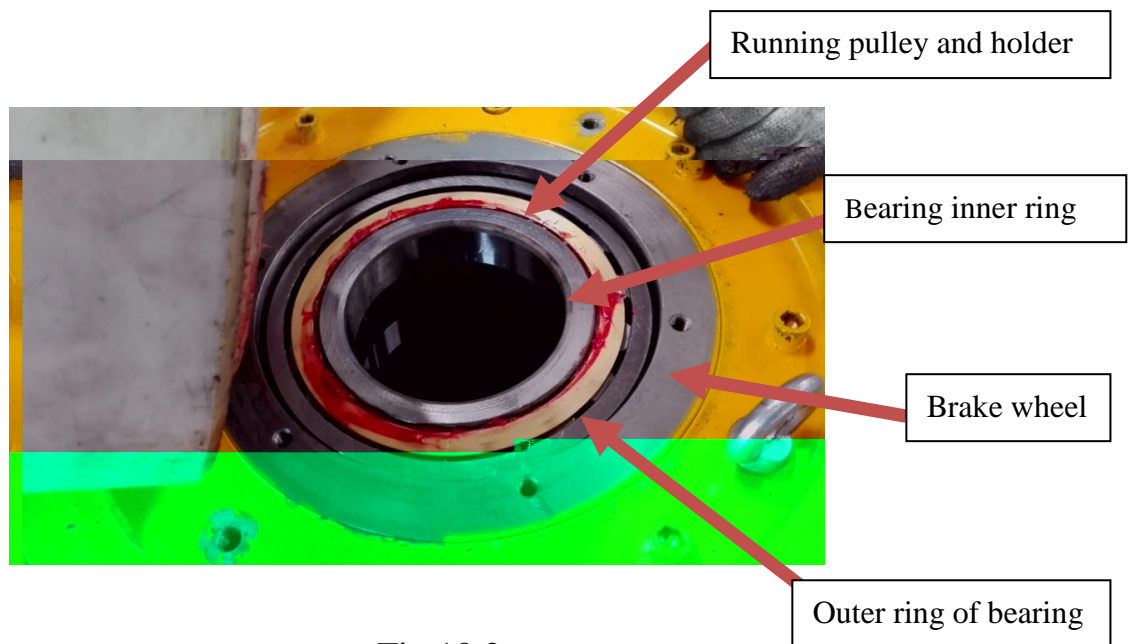

Fig.10.2
1.4.4.3.1.1 Remove the outer gland with Allen wrench on the M10 socket head cap screw, remove the rotor assembly from the machine, you can see open-type bearing NJ226 on the surface, as shown in figure 10.2.